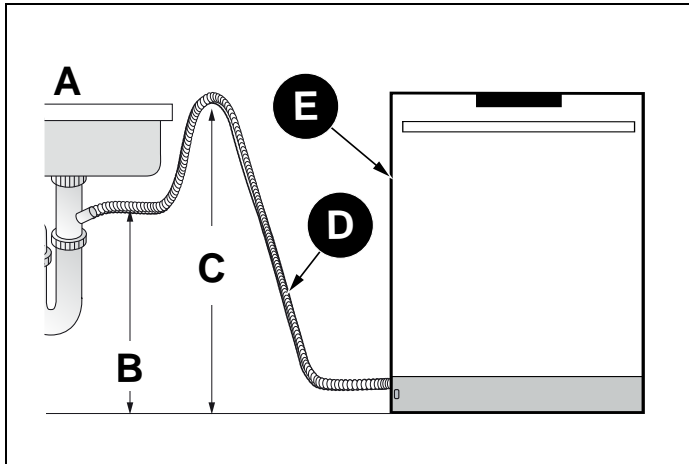

Fig. 18
- 5) If there is no air gap, make sure to suspend the middle of the drain hose well above the sink cabinet base to prevent back flow (see Fig. 18 ).